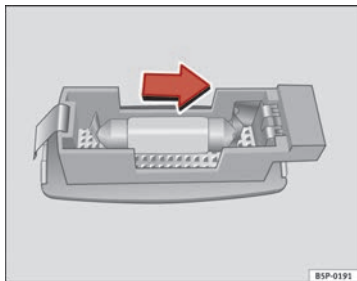

Fig. 201 Removing sun visor light
- Carefully remove the lamp, using the flat side of a screwdriver, as shown in the figure ⇒ fig. 201.
- Remove the bulb, moving it in the direction of the arrow and outwards ⇒ fig. 201.